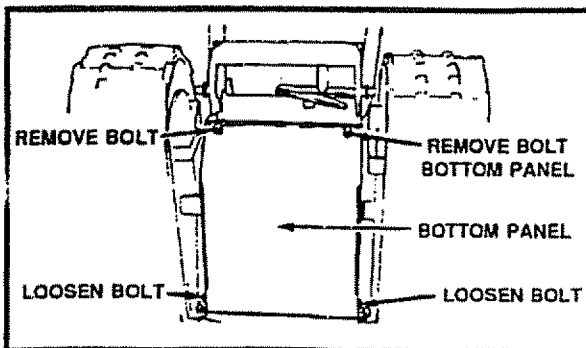
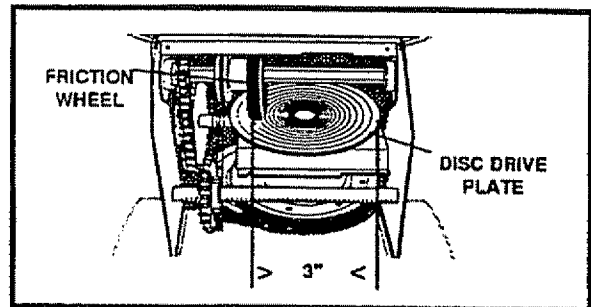

FIG. 29
FIG. 30
- Remove the bottom panel (See Fig. 29).
- Position the shifter lever in first (1) gear.
- Note the position of the friction wheel on the disc drive plate. The right outer side of the disc drive plate should be 3" from the center of the friction wheel (See Fig. 30).